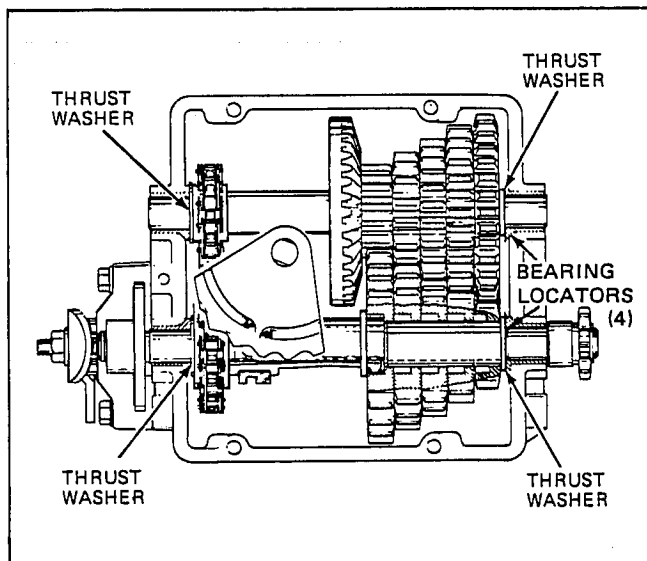

Figure 2-55
7. Install shaft assemblies into case utilizing piloting locators on bearings to properly align notches in case. See Figure 2-55. **CAUTION:** Be sure bearing locators are seated in transmission case.